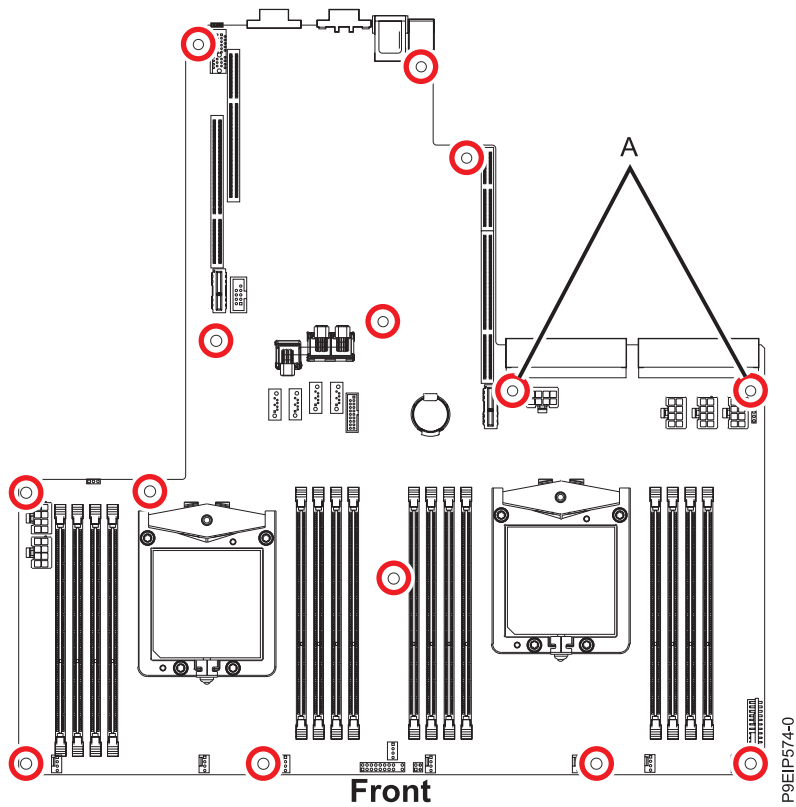

Figure 59. Screw locations. The two screws at **(A)** are black and slightly longer.
15. Align and screw the 14 screws into the system backplane. The screw locations are shown in Figure 59 on page 52.